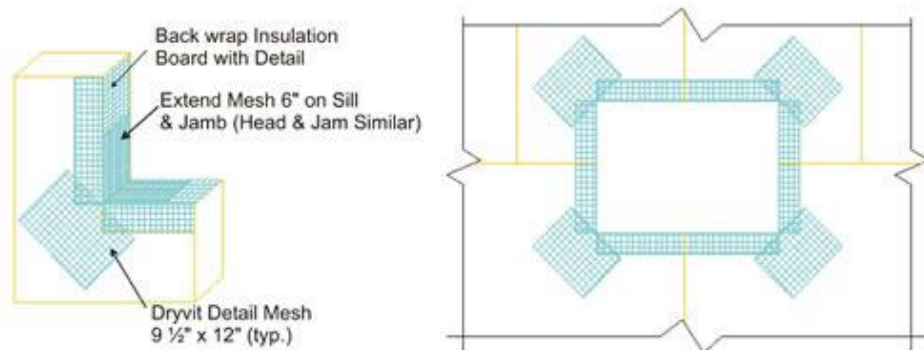

Fig. 21
20. Corners of all openings such as windows, doors, mechanical equipment, and all penetrations shall be reinforced with Detail Mesh placed diagonally to the opening as illustrated in Figure 21.